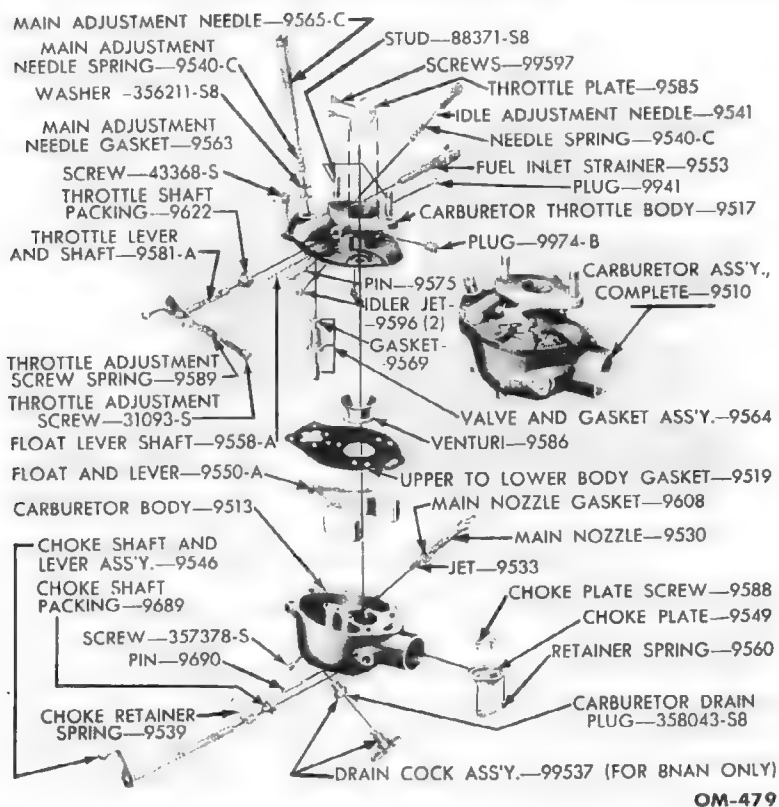
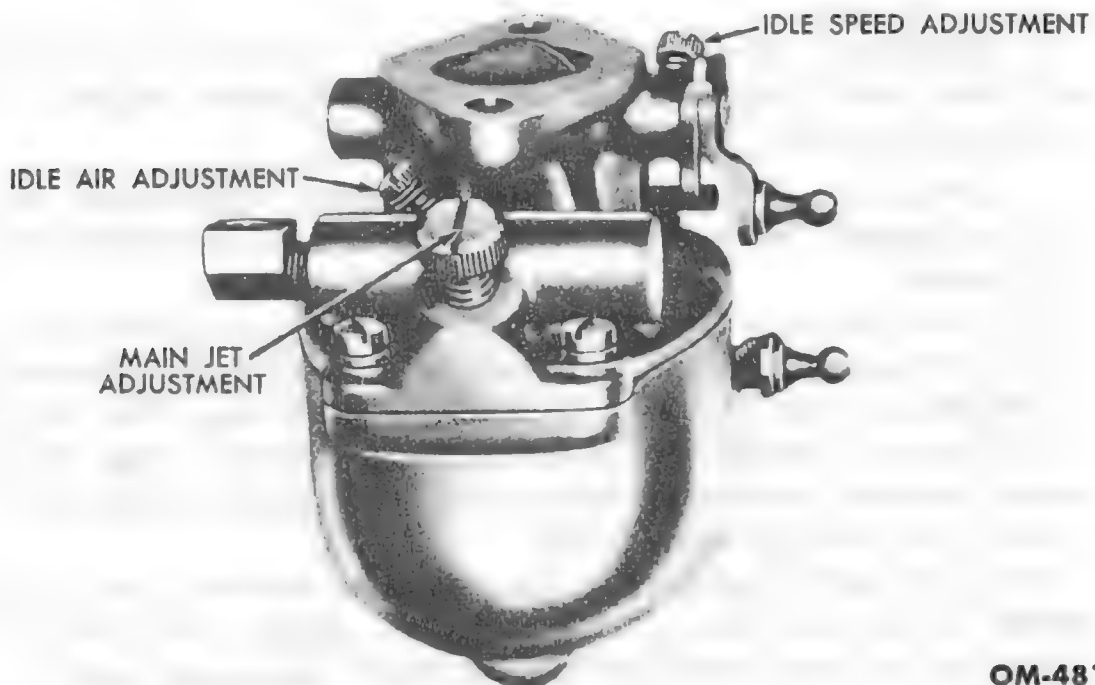

Fig. 48—Carburetor, Disassembled
Fig. 50—Carburetor, Assembled
b. Cleaning. Remove the main adjustment needle (fig. 50). Remove the four screws that secure the carburetor body to the carburetor throttle body (fig. 48). Thoroughly clean all passages in the carburetor. Be sure that the drain screen washer remains within the main air intake drain.
When the hand throttle is in the idle speed position, the engine should be running about 400 R.P.M. The engine speed may be determined by the proof-meter. The throttle adjustment screw is located on the left side of the carburetor, as shown in fig. 50. The